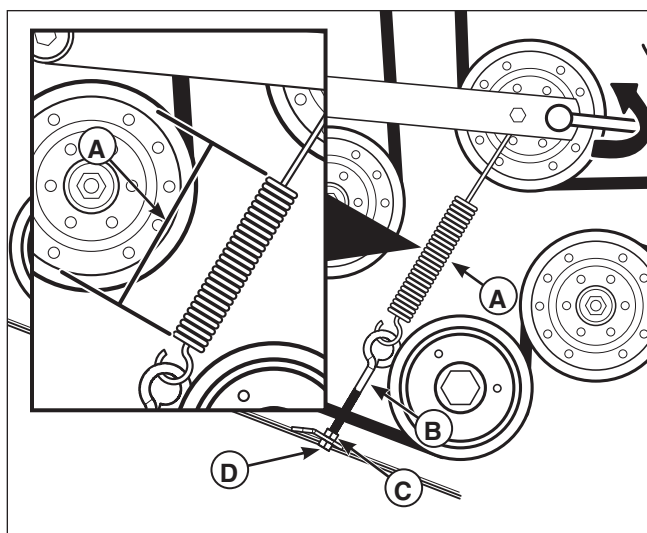

Figure 58. Mower Belt Idler Spring Length
3. Measure the coil length of the mower belt tensioner spring (A, Figure 58). The measurement should equal the measurement as indicated in the chart. If the measurement does not equal the measurement as indicated in the chart, adjust the mower belt idler spring length.